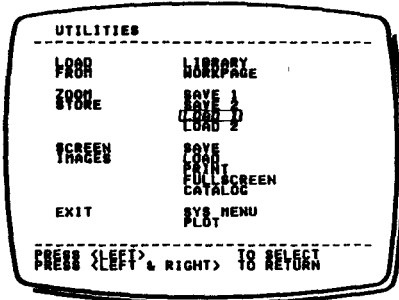

Fig 5
- 2 **Move XY to select ZOOM STORES - LOAD 1 as in Fig 5. Press and release L to confirm.**